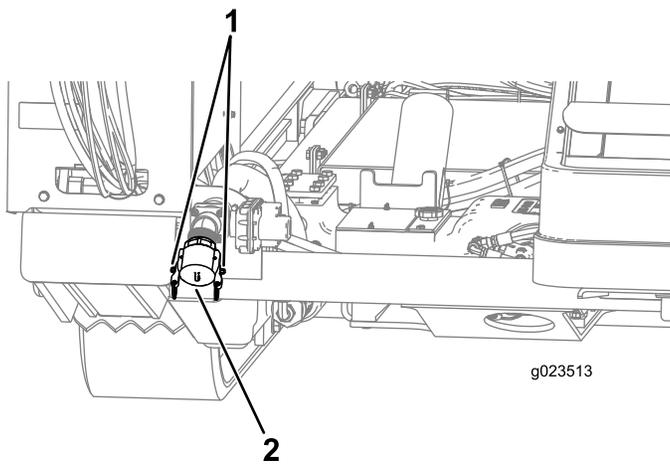

Figure 45
1. Raise the cam-lock levers on the pump-inlet cap, and remove the cap (Figure 45).